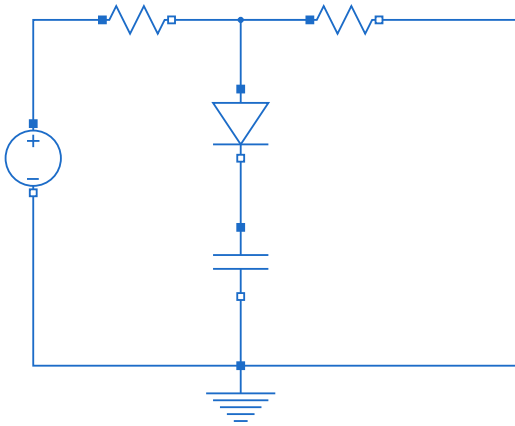

Figure 1: Electrical circuit.
Consider the electrical circuit shown in Fig. 1. The circuit has a sinusoidal source, a resistor, a diode, a capacitor and the ground. You are going to build your first Modelica library from scratch to compose this model.
8. Create a model called *Circuit* in which you include all these components as shown in Fig. 1.